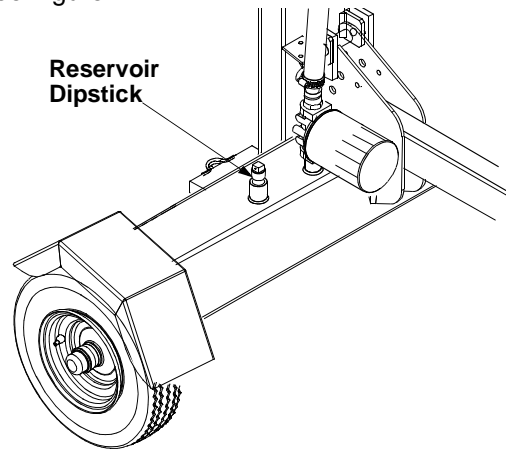

Figure 12
- Remove vented reservoir dipstick, which is located in front of the engine on top of the reservoir tank. See Figure 12.